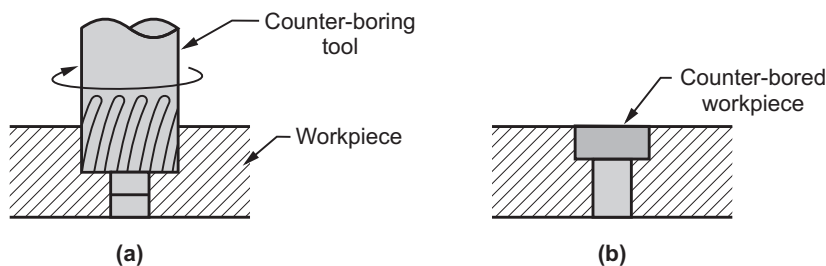

Fig. 5.16 : Counter-boring operation
- Fig. 5.16 shows counterboring operation in which the enlarged hole forms a square shoulder with the original hole.